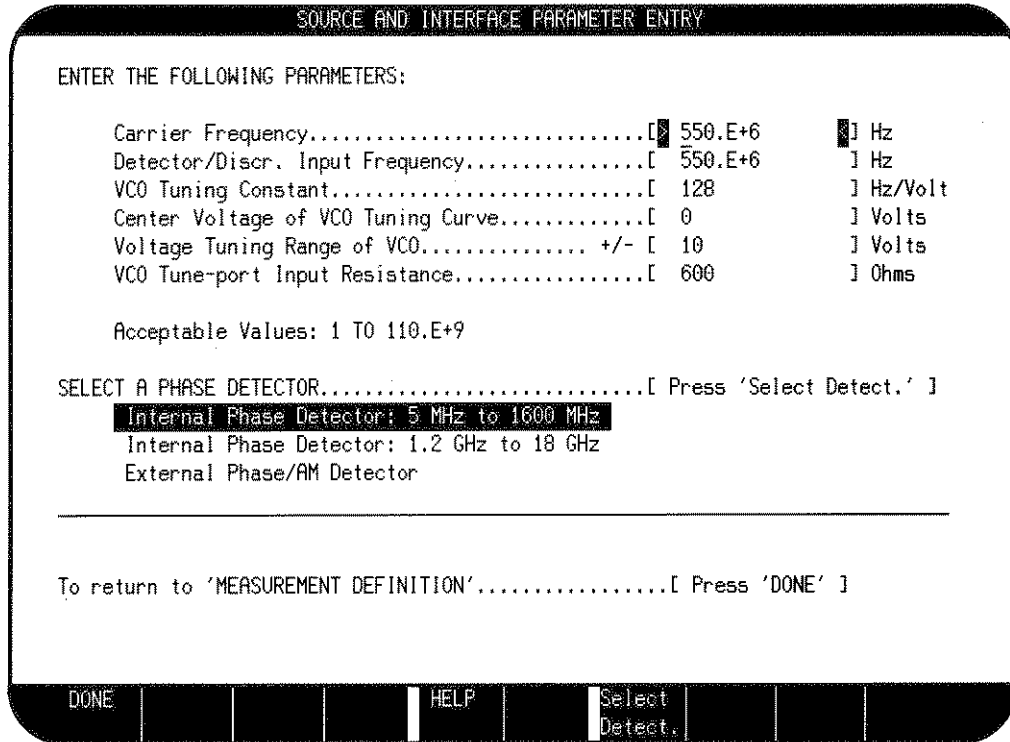

Figure 3-11. Source and Interface Parameter Entry Menu
7. On the HP 3048A press the **Instr. Params** softkey to obtain the Source and Interface Parameter Entry menu. Set the parameters and phase detector as shown in figure 3-11. When done, press the **DONE** softkey.
17. Call up the Source and Interface Parameter Entry menu (shown in figure 3-11) and select the phase detector labeled "Internal Phase Detector: 1.2 GHz to 18 GHz".